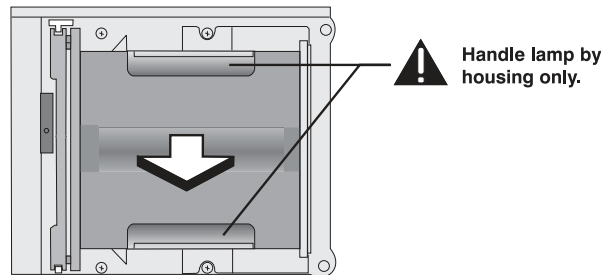

Figure 5-3. Removing the Lamp
4. Grasp the lamp by its housing only and pull it straight out (lamp slides along guides) until it's free; see Figure 5-3. Discard the lamp using safe disposal/recycling practices or contact your Vidikron dealer for a possible re-lamping program.